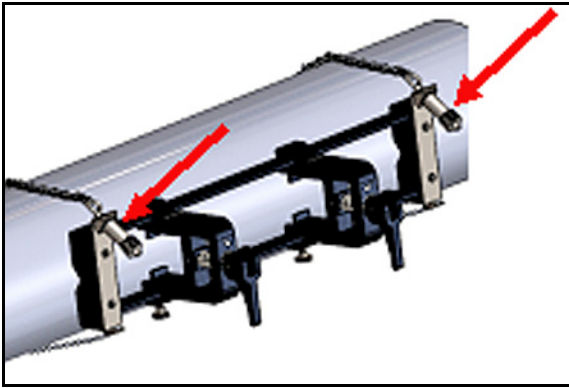

Figure 16: Secure the Fixture to the Pipe
9. After final alignment is complete, fully tighten both chains by turning the nut on top of both chain screw mechanisms (see *Figure 16* below) until the chain is tight enough to resist any fixture movement.